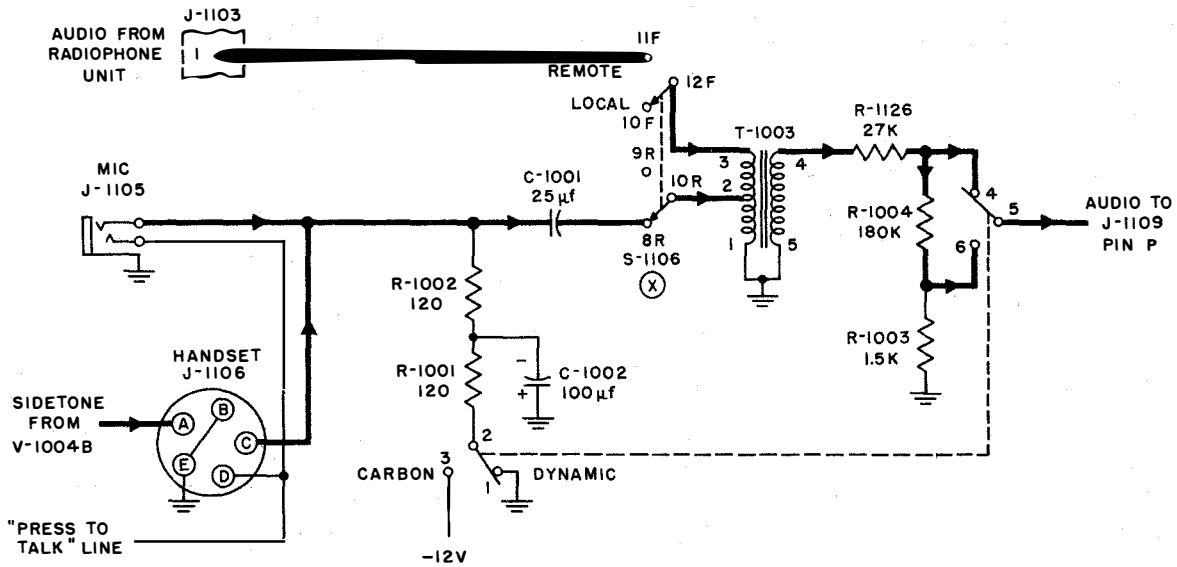

Figure 2-69. Audio Input Circuit, Simplified Schematic
(1) AUDIO INPUT CIRCUIT.—An audio input may be received locally through the HANDSET jack, J-1106, or the MIC. jack, J-1105 (figure 2-69). The signal is coupled to the 35-ohm tap (terminal 2) of the input transformer, T-1003, through capacitor C-1001 and contacts 8R and 10R of the LOCAL-REM switch (X), S-1106, in the LOCAL position. If the input is from a carbon microphone, -12 volts to energize the microphone is supplied through contacts 2 and 3 of the DYNAMIC-CARBON switch (Y), S-1102, and the filter network comprised of resistors R-1001 and R-1002 and capacitor C-1002. With dynamic microphone input, the -12 volts is disconnected and the filter network is tied to ground. The impedance of the filter network is high enough to not seriously shunt the 35-ohm termination of the microphone line. When the audio signal comes from a remote radiophone unit, it is connected across the full 600-ohm primary of T-1003 (terminals 1 and 3) through contacts 11F and 12F of switch (X) S-1106 in the REM position. The output of transformer T-1003 (terminals 4 and 5) is connected to a voltage divider network comprised of resistors R-1126, R-1004, and R-1003 to ground. To compensate for the fact that the signal level from a carbon microphone is higher than from a dynamic microphone, the output to the following stage for dynamic microphone input is taken from a higher tap on the voltage divider by means of DYNAMIC-CARBON switch S-1102. With DYNAMIC phone input, the output to the following stage is taken from the junction of R-1126 and R-1004, through contacts 4 and 5 of DYNAMIC-CARBON switch (Y) S-1102 in the DYNAMIC position, while, for carbon microphone input, the output is taken from the junction of R-1004 and R-1003 through contacts 6 and 5 of DYNAMIC-CARBON switch (Y) S-1102 in the CARBON position. The comparative signal levels, as determined by the values of the voltage-divider resistors, are such that the following amplifier stage will not be overdriven, causing distortion.